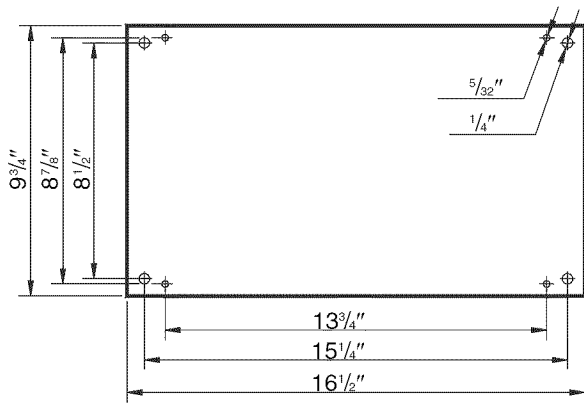

Figure 3 - Installing Jointer/Planer
- The  $\frac{1}{4}$ " holes (see Figure 3, page 4) are intended for installing jointer/planer using bolts, lockwashers and hex nuts.
- The  $\frac{5}{32}$ " holes (see Figure 3, page 4) are intended for installing jointer/planer using wood screws.